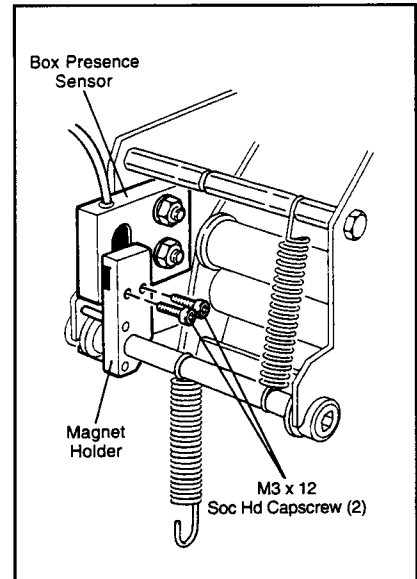

Figure 6
10. Insert two M3 x 12 mm lg. socket head capscrews through the holes in the magnet holder and into the tapped holes in the box presence sensor. If the holes do not line up, shift the location of the box presence sensor to line up the holes. Snug the M3 capscrews (**this aligns the sensor temporarily**). See Figure 6.